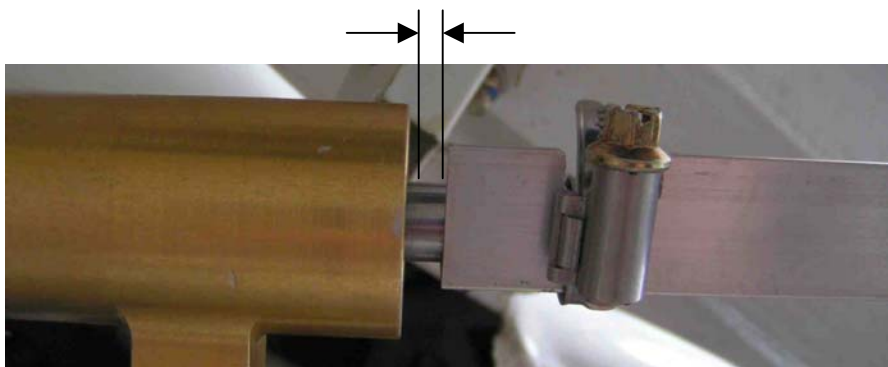

Fig. 4: Marking device
5. Install marking device (metallic block or angle, fixed by means of a clamp), at piston rod of main hydraulic actuator, similar to fig. 4., fixed without gap between cylinder housing and marking device.